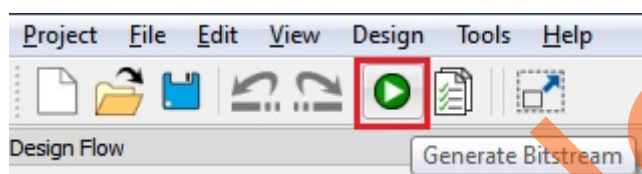

Figure 47 • Generate Programming Data
5. Click **Generate Bitstream** as shown in Figure 47 to complete place and route, verify timing, and generate the programming file.